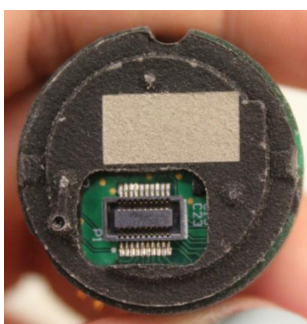
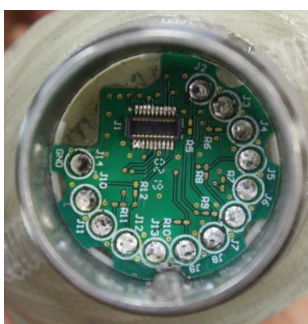

Figure 6: Module
Figure 7: Inside module housing
2. Inspect the Module (Figure 6) and the inside of the Module housing (Figure 7) for any dirt or debris that may have accumulated. Blow with compressed air to remove any debris. If necessary, rinse with isopropyl alcohol and let air dry completely before continuing.